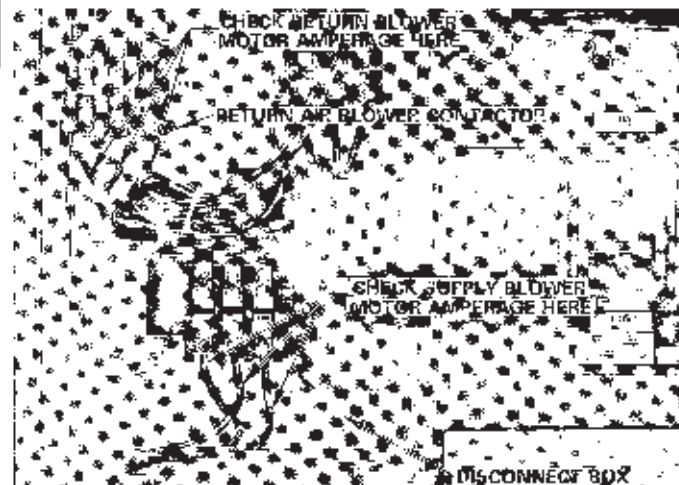

FIGURE 38
- 4 - Check amperage draw on each of the (3) wiring leads to the motor and compare with amps on motor nameplate. Refer to Figure 38. **Caution - Motor life may be shortened if nameplate amps are exceeded.**